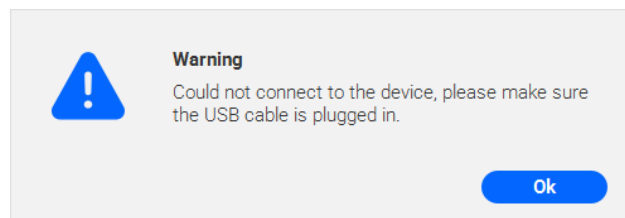

Figure 33. Connection warning shown when USB connection to the Versatile Plus cannot be established.
5. If the amplifier cannot be reached over USB, the warning shown in Figure 33 will be displayed instead. If this occurs, verify that the USB cable is correctly connected at both ends (computer and amplifier) and that the amplifier is powered on. Then click Access again.